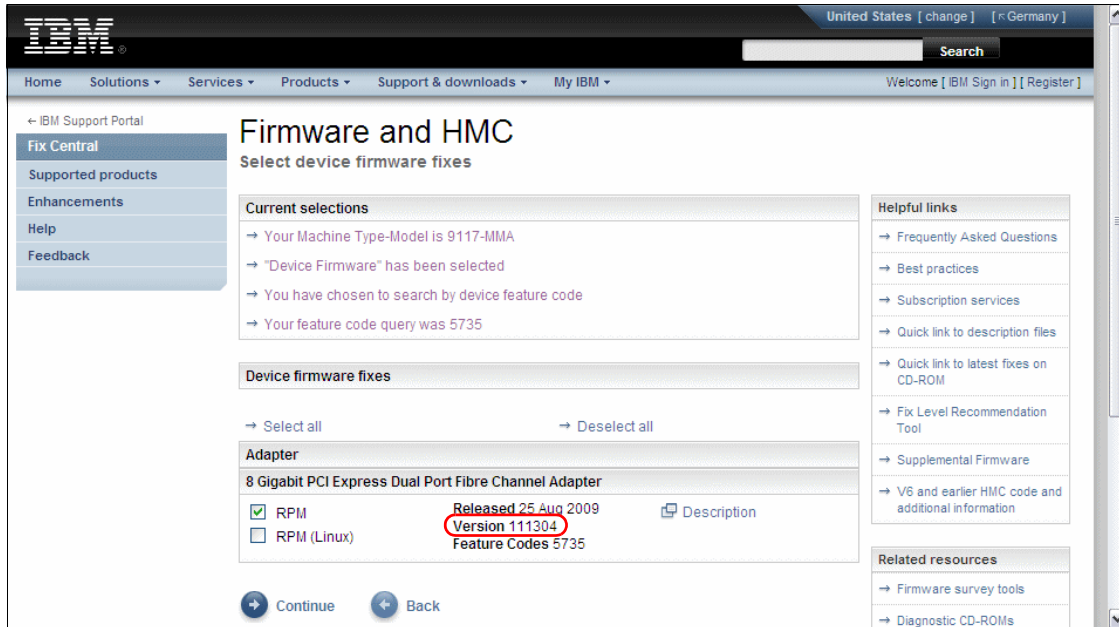

Figure 11-18 IBM Fix Central website: Select device firmware fixes
8. Check the displayed version of the available latest RPM firmware package for the adapter. If it is newer than the currently installed one checked in step 2, click **Description** to display the Firmware Description File including installation instructions. Then click **Continue** as shown in Figure 11-18 to proceed with accepting the license agreement and starting its download.